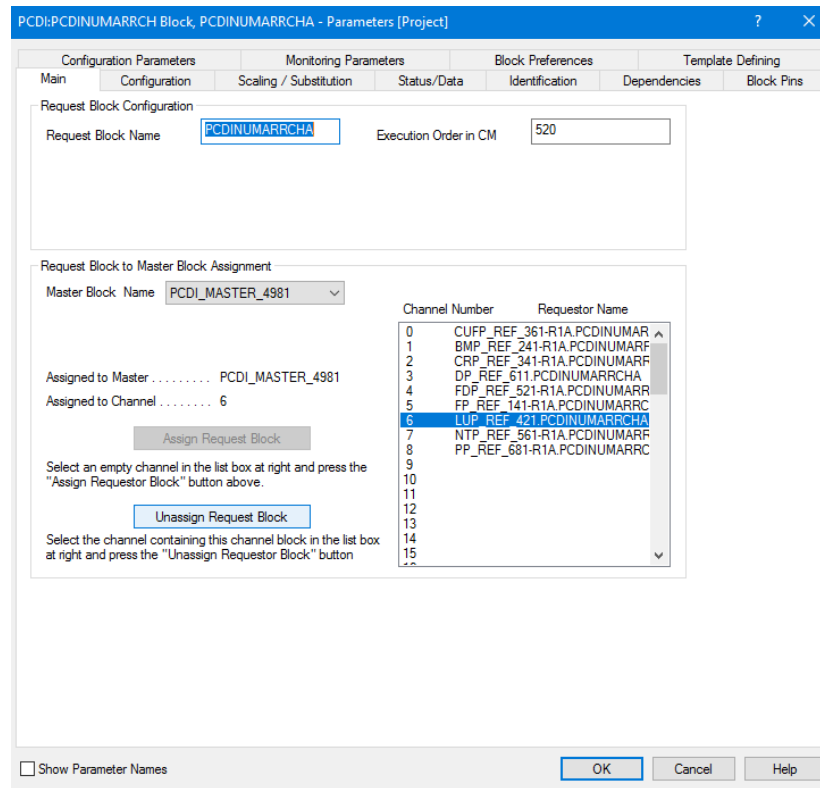

Figure 5: Unassigning LUP_REF_421.PCDINUMARRCH from output channel six (Step 3b).
2. Select 'Unassign Request Block' from the 'parameters' popup menu in the 'Main' sub-menu (Figure 5).